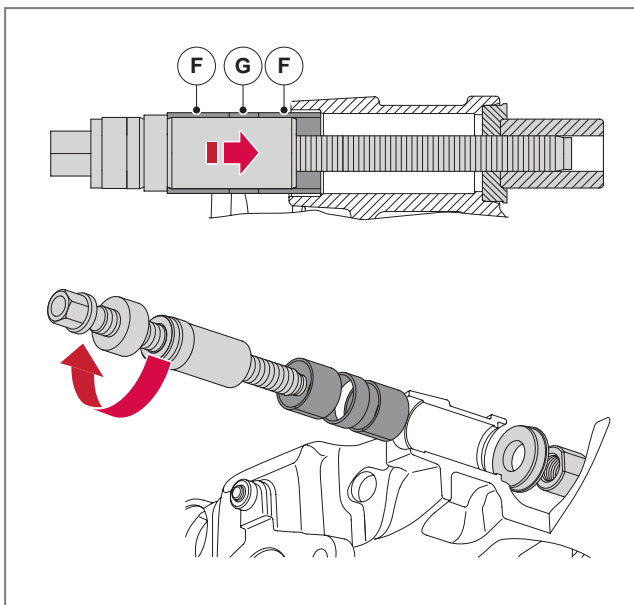

Fig. 66 - Fitting the fixed bearing bushings
2. To install the two new bearing bushings (F) and the new spacer (G) on the leading side, assemble in sequence SAF special tools P/N 4 434 3837 00, P/N 4 434 3848 00, P/N 4 434 3841 00, P/N 4 434 3889 00 and P/N 4 434 3890 00, preloaded with the new components, see ► Fig. 66.
3. Once fitted correctly, rotate the threaded tool clockwise, which will pull into position the two bearing bushings (F) and the spacer (G).